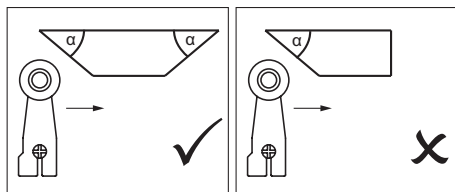

Figure 1: Dog shape
- ▶ To prevent the actuating element from bouncing, the dog must run out gradually (see Figure 1).